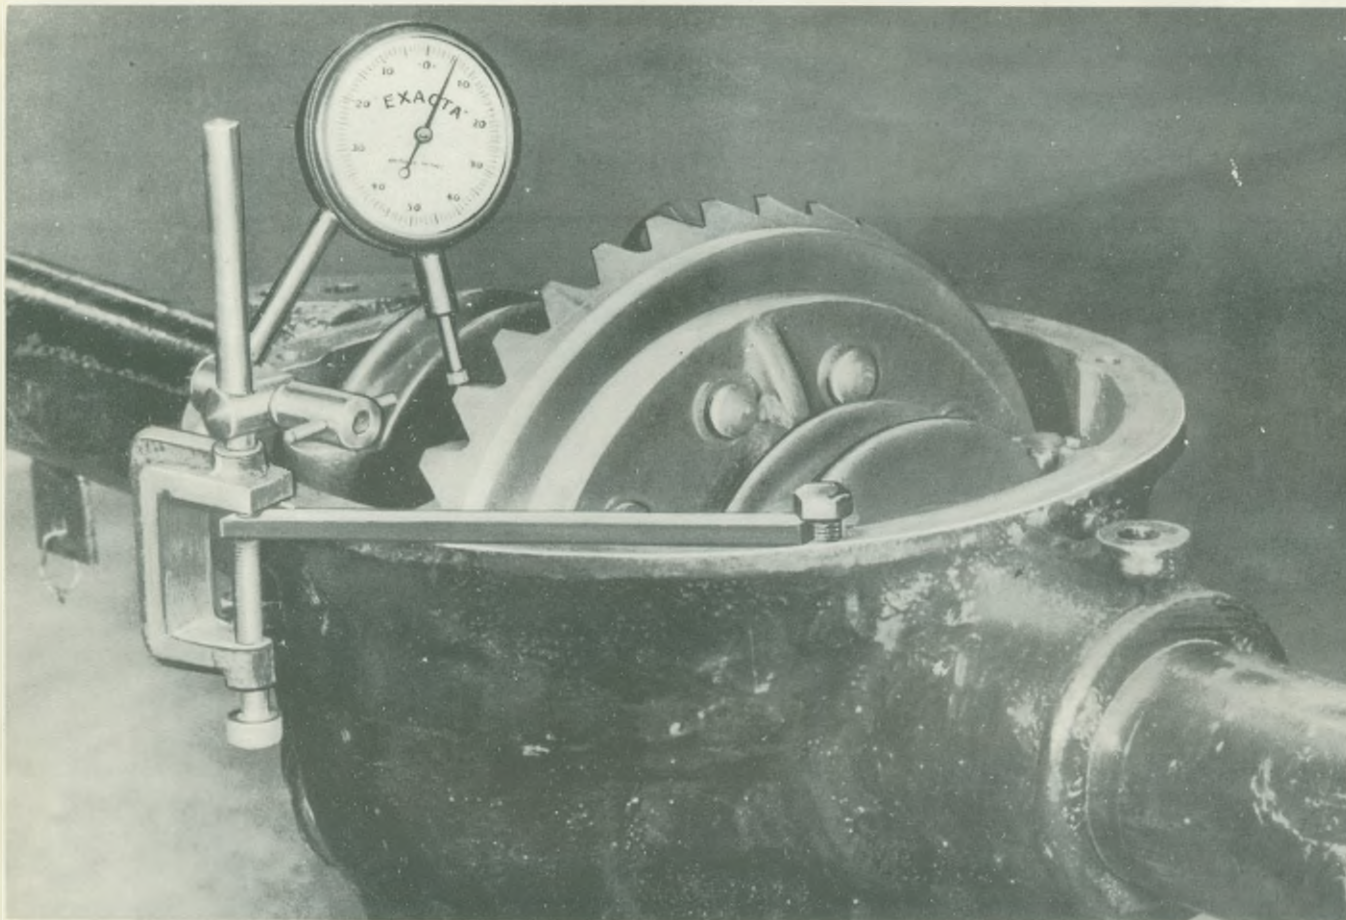

Fig. 30. Checking backlash between crown wheel and pinion
13. As a final check on crown wheel and pinion backlash, install a dial indicator, as shown in Fig. 30, with the plunger resting on the flank of a crown wheel tooth. Use up backlash by rocking the crown wheel to and fro by hand and note the reading on the gauge. If backlash does not fall between the prescribed limits of .005" — .007", shims should be moved from crown wheel side to the side remote from this to increase, or the reverse procedure adopted to decrease, lost movement.